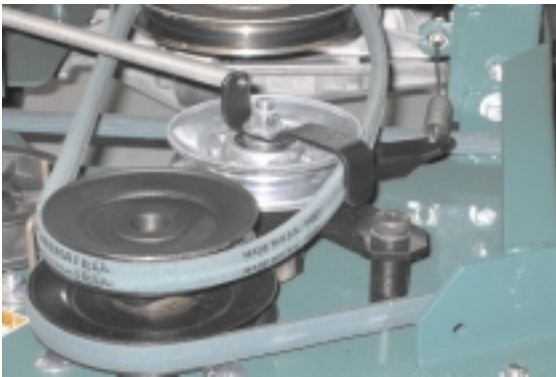

Figure 17-7
15. Observe the idler pulley when the blade drive lever is lowered and released (see figure 17-7).